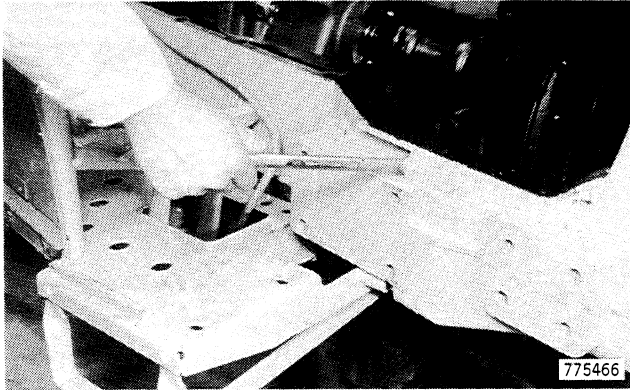

Figure 49
- 52. Remove the two outer cap screws that hold the front and rear housings together, Figure 49. Remove the four cap screws from underneath the housing. As the two outside cap screws are removed the step will fall down.